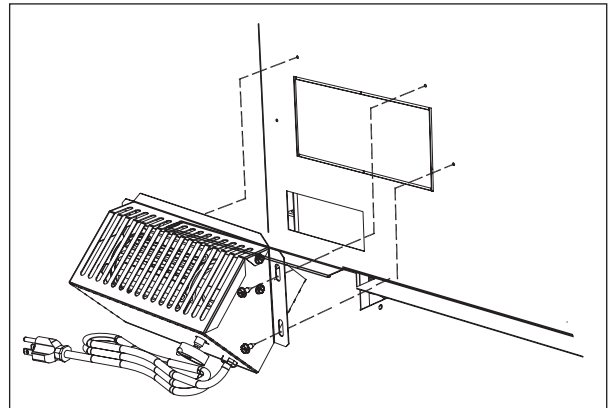

Figure 1
2. Mount the blower assembly to the mounting box with the 4 screws removed in Step 1. See Figure 1.